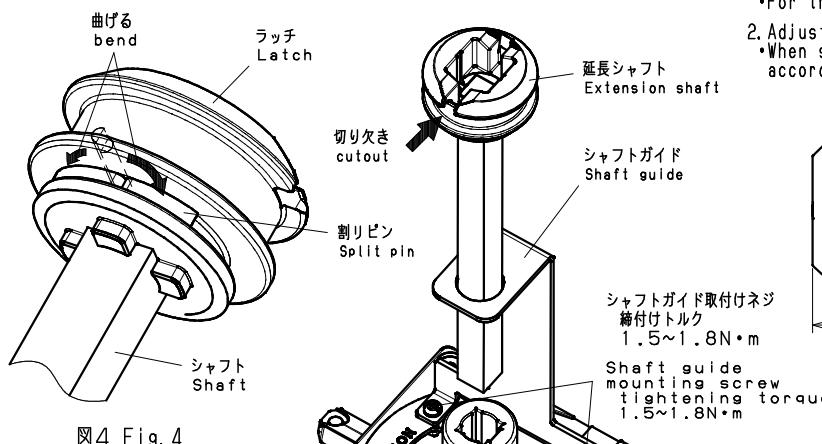

図4 Fig. 4
(3) ラッチの取付け(図4)
(3) Mounting the latch
- Mount the latch that was removed in (1) on the shaft with a split pin and bend the tip of that split pin along the latch as shown in fig. 4.